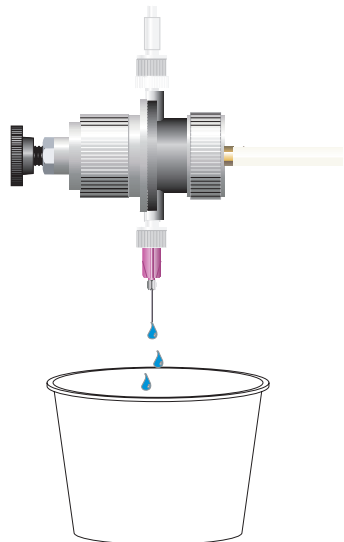

FIGURE 7
5. To purge air from the supply line, place a disposable container under the needle (Refer to figure 7). Activate Valve with 30 psi min. air pressure from air source or optional TS9701 Varimeter, dispense adhesive for 15 to 20 seconds or until air is purged from the line. Deactivate Valve (Release air pressure). If Valve does not instantly shut off flow, air is not completely purged from the line.
6. It may be necessary to fine tune the flow control or dot size desired. Adjustment of the Knob (5) controls the travel of the "SHUT-OFF" Piston (2) by limiting its reverse movement. The "SHUT-OFF" Piston is moved by the Push Rods of the Air Piston (8). The travel of the "SHUT-OFF" Piston (2) determines the amount of opening for the Pump Tube (7), when coupled with a *time control, determines the shot size. (Refer to Section 4.3 number 3). With repeated use, a closely controlled application can be achieved by adjusting the following:
- C. Stroke adjustment on the shut-off Piston Knob (5).